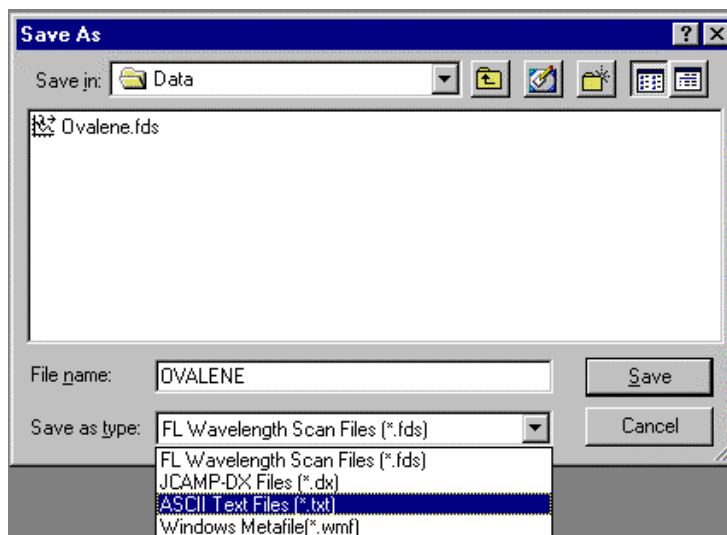

Fig. 6-32
- (1) Open the data processing window.
- (2) Click the Save As (A) command in the File (F) menu.
- (3) A window as in Fig. 6-32 will open.